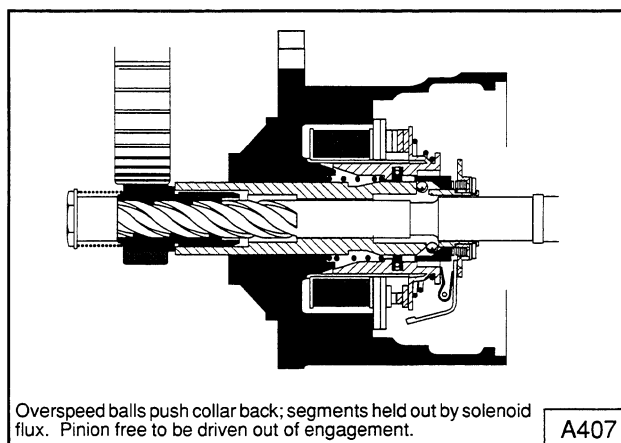

Fig. 5 Overspeed Position
1.2.4 Overspeed position (See Fig. 5)